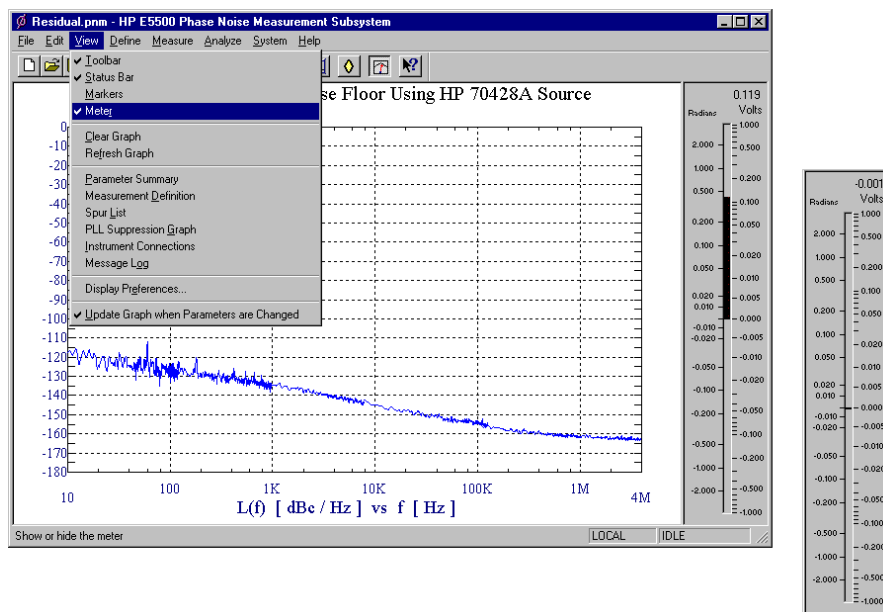

Figure 8-8 Adjust for Quadrature
- 7 After you complete the measurement set up procedures and begin running the measurement, the computer will prompt you to adjust for quadrature (Figure 8-8). Adjust the phase difference at the phase detector to 90 degrees (quadrature) by either adjusting the test frequency or by adjusting an optional variable phase shifter or line stretcher. Quadrature is attained when the meter is set to center scale, zero.